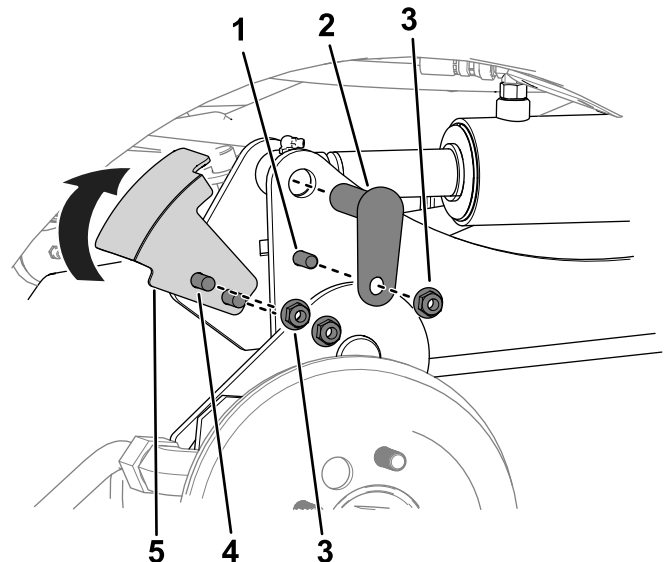

Figure 12
4. Secure each cylinder-rod end to the each lift arms with a small pins, bolts (3/8 x 1-1/4 inches), and nut (3/8 inch) as shown in Figure 12.
5. Secure the sensor bracket to the right lift arm using 2 carriage bolts and 2 nuts (3/8 inch) as shown in Figure 12.
When installing the sensor bracket, rotate the bracket up (as shown in Figure 12) before clamping.